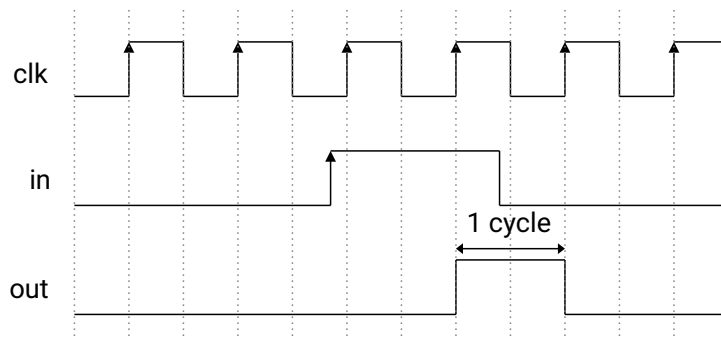

Figure 1: Rising Edge Detector behavior
**a.** Design a Rising Edge Detection circuit. This circuit will use at least 2 flip-flops. The behavior of the circuit is similar to the waveform in Figure 1. Assume that the in signal's HIGH levels last equal to or longer than a clock cycle.